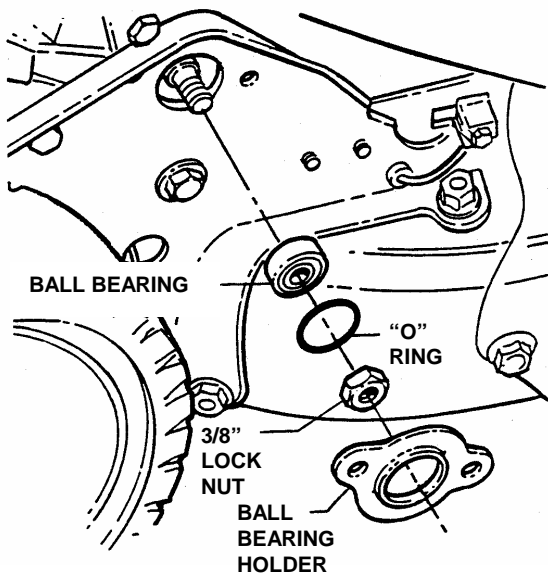

FIGURE 4.15
2. Remove the 3/8" hex lock nut which is located on the outside of the right wheel bracket. See Figure 4.15.